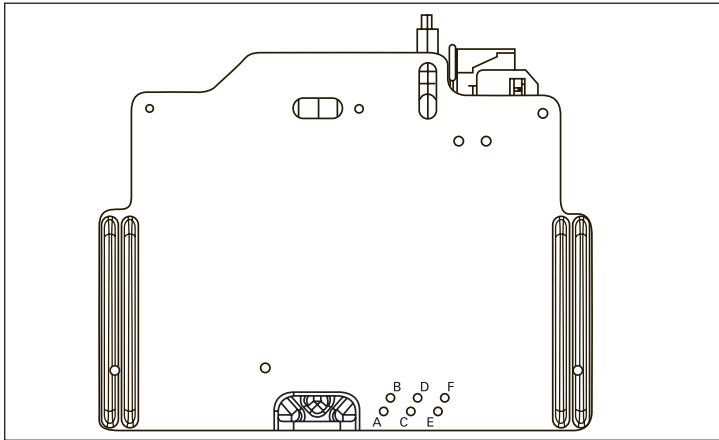
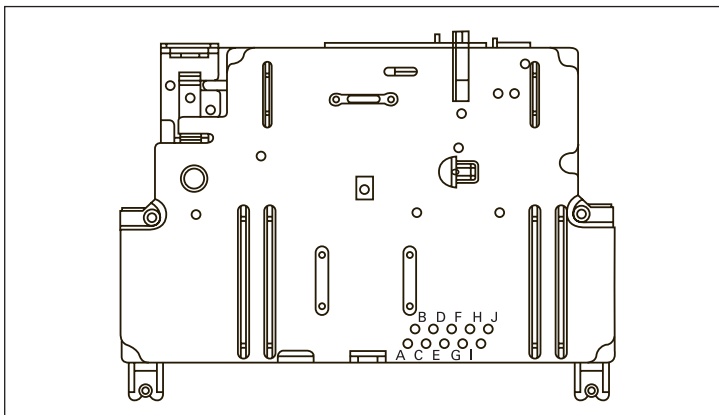

Figure 2. NF breaker pin locations.
Figure 3. RF breaker pin locations.
Step 3: Locate the already tapped holes in the bottom rear of the breaker identified with the letters A, B, C, D, E, and F (Figure 2) for the NF frame, and A, B, C, D, E, F, G, H, I and J (Figure 3) for the RF frame.